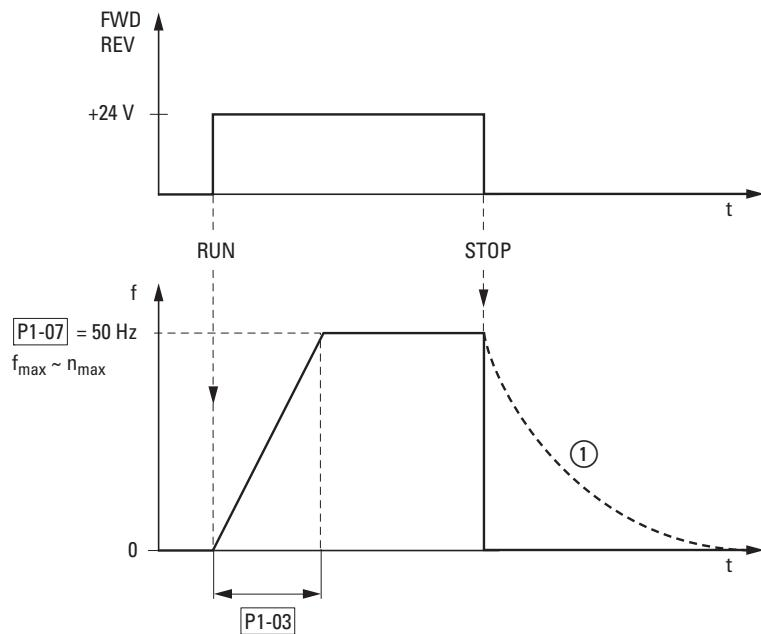

Figure 90: Start-stop command at maximum set point voltage
Figure 90 shows an example of the course when the enable signal (FWD/REV) is switched on and the maximum setpoint voltage (+10 V) is present. The speed of the motor follows the output frequency, depending on the load torque and moment of inertia (slip), from 0 to  $n_{\text{max}}$ .
If the enable signal (FWD, REV) is switched off during operation, the inverter will be disabled immediately (STOP) and the output frequency will be set to 0. The motor stops uncontrolled (see ① in Figure 90).